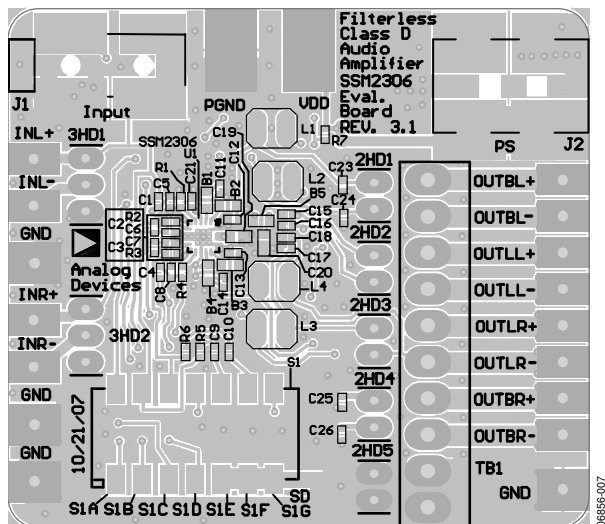
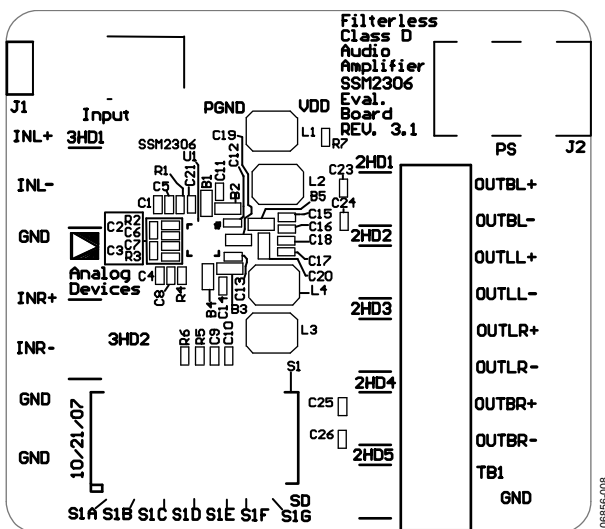
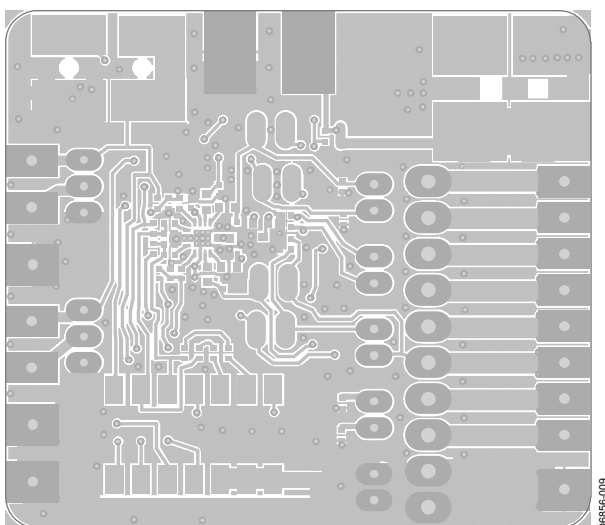

Figure 7. Top Silkscreen Layer with Other Top Layers
Figure 8. Top Silkscreen
Figure 9. Top Layers Without the Top Silkscreen Layer
8. Decouple the input port nodes and the digital pins (Pin 3, Pin 4, Pin 5, Pin 8, and Pin 9) with small capacitors, such as 100 pF. These capacitors (C5, C6, C7, and C8) are not required, but they can lower the EMI from these pins. The ground terminals of these capacitors should be connected as close to the chip ground as possible (see Figure 7).
10. Connect the GND pins, Pin 13 and Pin 16, to the thermal pad and place grounding vias, as shown in Figure 7, Figure 8, and Figure 9.